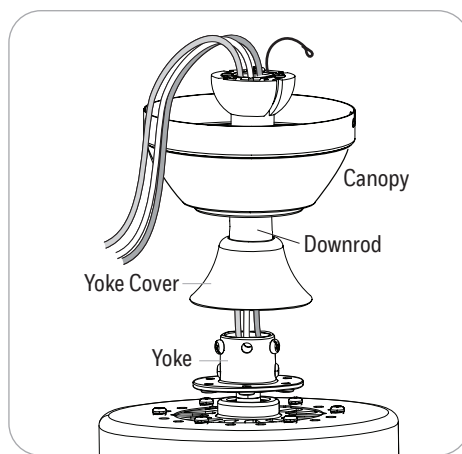

Figure 2.5
5. Insert the downrod through the canopy and yoke cover. Feed the wires and braided cable from the fan through the downrod (Figure 2.5).